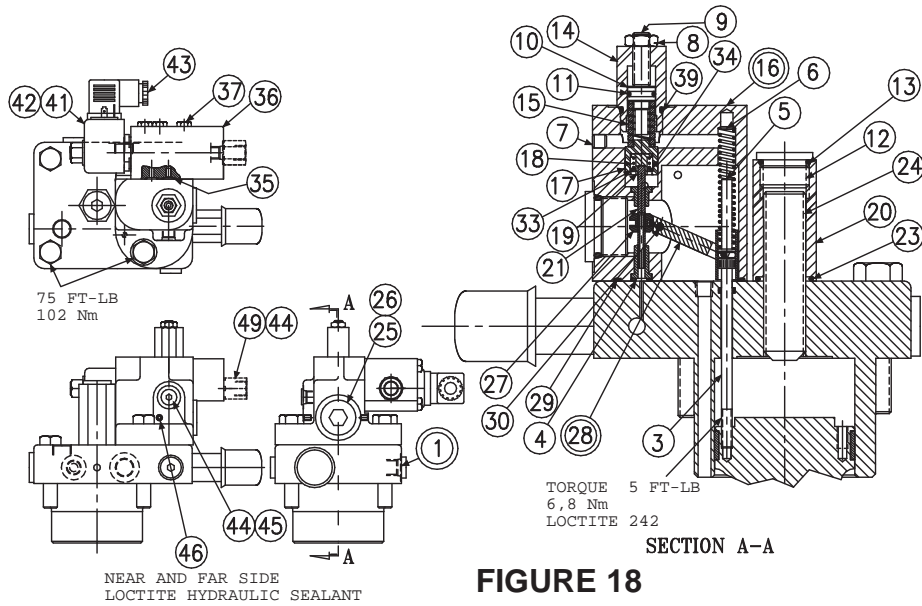

FIGURE 18
PARTS LIST FOR FIGURE 18
1. See Figure 18. Remove 3 screws (37) holding block (36) to body (16).
2. Remove 2 screws holding body (16) to cap assembly (1).
3. Remove all parts from body (16) except pin (30) and arm assembly (28). It is not necessary to remove these parts unless broken or worn. Examine parts for wear or damage.
4. Remove screw (3). Examine head for excessive wear, and body for smooth sealing surface with O-ring.
2. Install spool (4) into bore as shown. Install spring (8) over end of spool.
3. Install O-ring (13) on spring retainer (12). Install retainer (12), screw (14), and nut (15) in plug (3).
4. Install O-rings (7) and (16) on plug (3). Install plugs (3) and (9) in body (1). Install orifice (20) and plugs(10). Torque plugs. Install O-ring (5) in cap.
5. Turn screw (14) in until spring retainer (12) contacts spring (8). Turn an additional 1-1/2 turns and lock in position.
8. See Figure 18. Apply Loctite 242 on threads of screw (3), lubricate the shank, thread through the cap into the control piston, and torque to 5 lb.·ft., 6.78 N·m.
9. Install minimum stop screw (24) and turn clockwise to stroke pump to full volume. Measure height from control cap to top of screw (3). With control piston at full stroke, dimension must be .45 +/- .03 in., 11,4 +/- 0,76 mm. Back out minimum stop screw (24) till there is no contact with control piston.
10. Press dowel (30) into body (16), through the link (28), to 1/4, 6,35 mm below surface, apply Loctite Hydraulic Sealant to threads of screws (46) and install over dowel (30).
11. Press spool (21) into retainer (19). Caution: do not use excessive force. Place spool/retainer assembly into spool (17) with spring (18) and washer (34). Secure with retaining ring (33).
12. While sleeve (27) is engaged into dowel on link (28), slide above spool assembly into bore of body (16), and through sleeve (27). Spool (21) must move freely and easily at all positions of the link (28).
13. Install proportional valve (41) in block. Torque to 20 ft.·lbs., 27 N m.
15. Assemble all other components into body (16) per above drawing. Torque the plug (12).
16. While spring retainer is engaging clevis pin (5) under dowel of link (28), slide the other opening of spring retainer over the top of the screw (3). Attach body assembly (16) to cap (1) with two screws and torque to 75 lb.·ft., 102 N m.
Ref. Figure 18